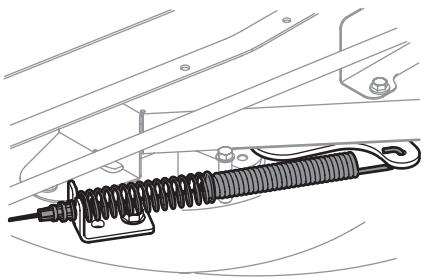

Figure 31
8. Carefully remove the PTO cable from the rear of the cutting deck. Remove the spring from the deck idler bracket. See Figure 31.